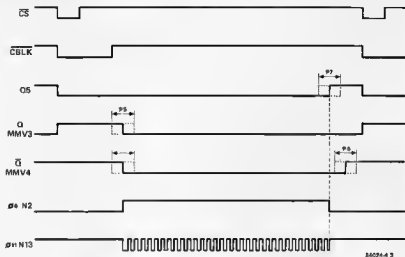

Figure 3. This timing diagram should help to clarify the operation of the circuitry responsible for the horizontal image window
The operation of this section of the circuit is clarified by referring to the timing diagram of figure 3. The waveforms shown only apply when both FG and EODF signals are '0', which means during the vertical image window. The CS signal travels via inverter N5 to the reset input of IC4. After a reset Q5 (EODL) becomes '0'. At the same time MMV3 is triggered so that N13 is still disabled via N2 even though EODL, EODF, and FG are all zero. The falling edge of MMV3 triggers MMV4 and the pulse provided by this latter monostable (LG) defines the maximum width of the image window. The horizontal position can now be set by adjusting the left side of the image with P5 and then the position of the right side can be fixed with P6 depending on the setting of P7. The image can thus be centred by means of this P5/P6 combination. If the frequency of N13 set with P7 is so high that more than 32 periods occur within the LG pulse the position of the right side of the image will be defined by Q5. This is referred to again in the section on calibration. The oscillator signal of N13 is fed to the clock input of IC4. The combination of
signals shown in figure 3 ensures that the oscillator is always started at the same moment during each of the 256 lines. During each line the Q0...Q4 outputs of the counter select each of the multiplexer inputs in chronological order. The falling edge of the oscillator signal clocks IC4. The next rising edge is used to load FF1 with the data supplied by IC3. This is done to give the comparator sufficient time to react to the input signal. Furthermore, the display width of each channel is exactly one clock cycle, with the exception of channels 1 and 31 which are never totally visible because of the starting and stopping of the oscillator. This is also the reason why channel 0 is tied to ground. Channel 31 could possibly be used to specify, for example, a certain reference level.